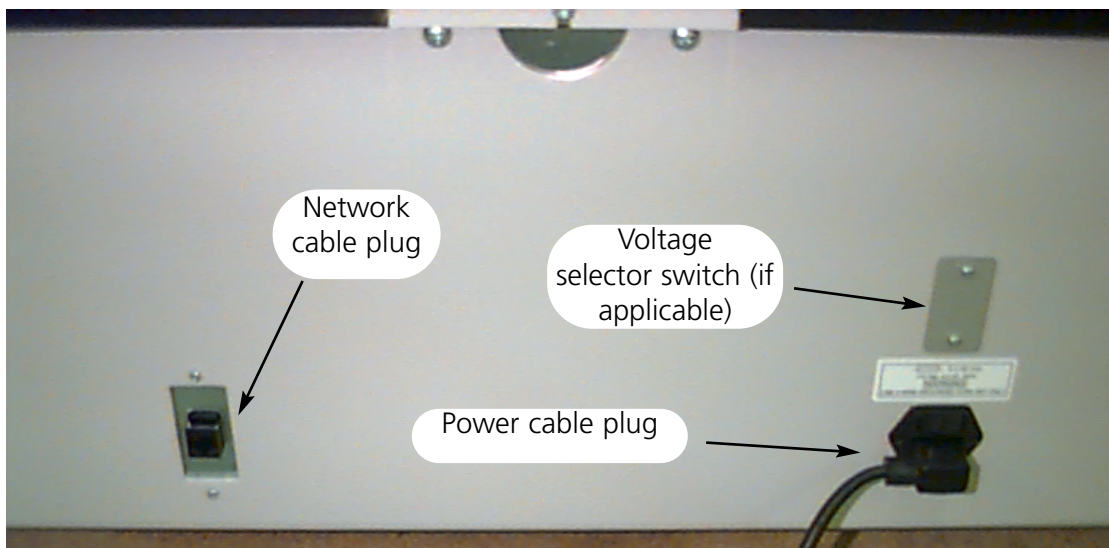

Figure 1-17
3. Plug the power cable to the rear of the unit as shown in Figure 1-17.